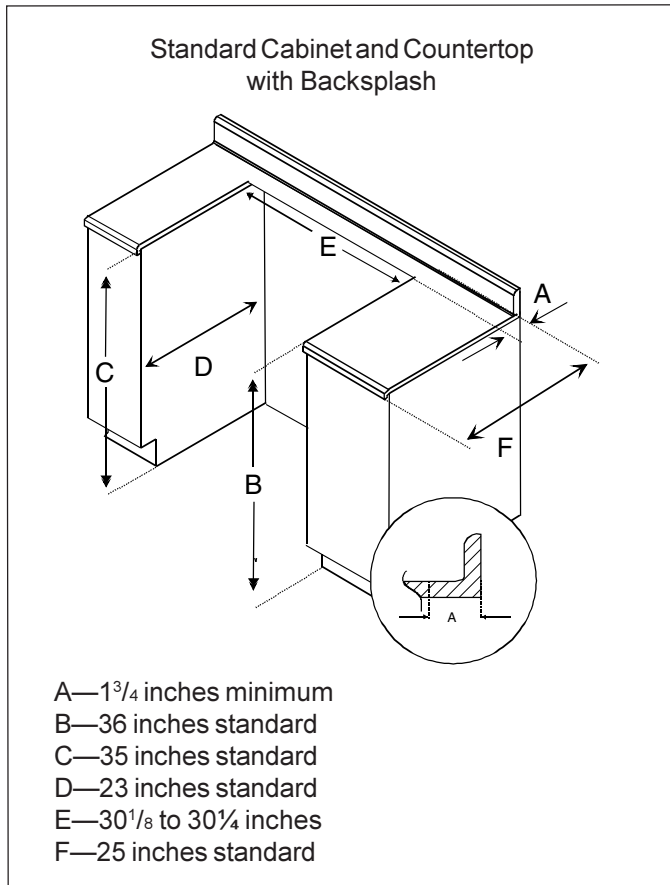

Figure 1
See Figures 1–3. Range extend beyond cabinet when installed. Using dimensions, prepare cabinet opening.
1. Measure (A) from back wall on right and left side of cabinet cutout. Mark measurements on floor and draw a straight line connecting marks.
- Measure  $3\frac{1}{2}$  inches when installed with backsplash. See Figure 1.